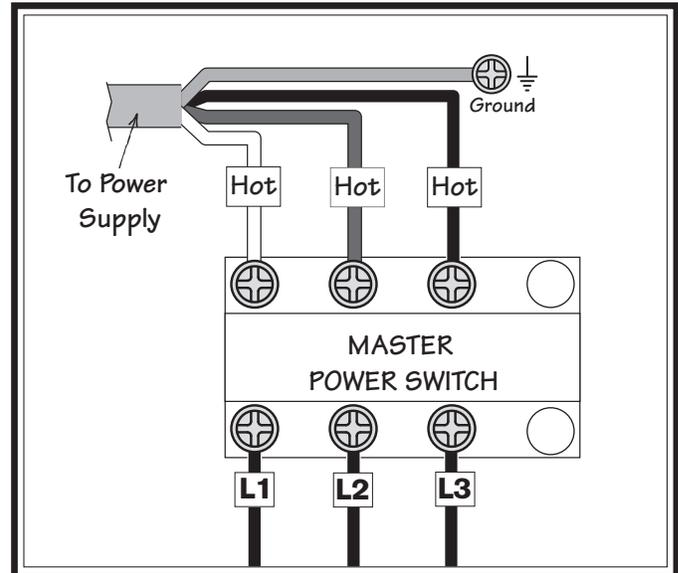

Figure 23. Power connection at master power switch.
3. Connect the incoming hot wires to the upper master power switch terminals and the ground wire to the ground terminal, as illustrated in **Figure 23**.